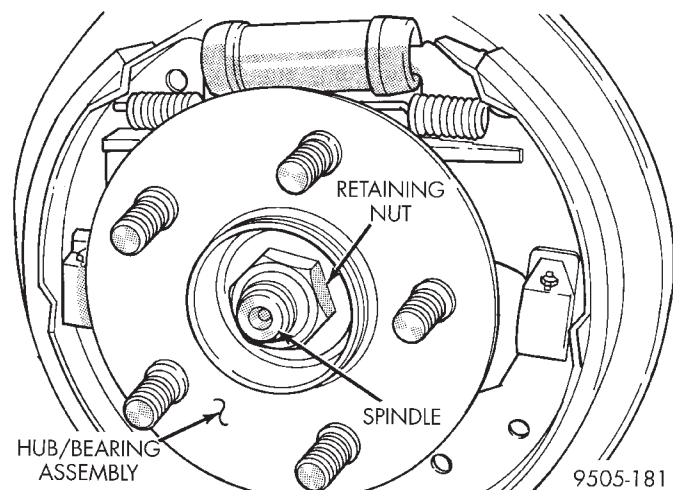

Fig. 148 Hub/Bearing Assembly Retaining Nut
(19) Remove the rear hub/bearing assembly retaining nut (Fig. 148).
(5) Install hub/bearing assembly on rear spindle. Then install **a new** rear hub/bearing assembly retaining nut (Fig. 148). Torque hub/bearing assembly to spindle retaining nut to 250 N·m (185 ft. lbs.).